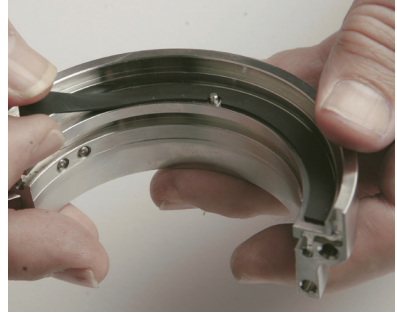

Figure 32
13.1 Set the seal drive face up on the bench. Lubricate both sides of the vibration damper with silicone grease. Place the vibration damper on the seal drive rotating face support surface using the drive pin as a locator. See Figure 32.